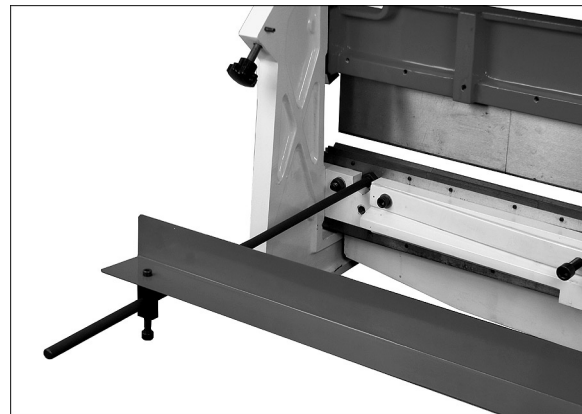

Figure 5
7. If making repeated bends or using a long workpiece, position the guide rods and plate for brake operation, as shown in Figure 5.